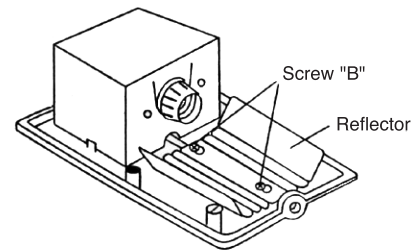

Figure 2
- Remove reflector by loosening two screws (B Figure 2) to allow the reflector to slide upward until the keyholes in the reflector release the screws.
- Replace reflector; secure it with screws. (B Figure 2).